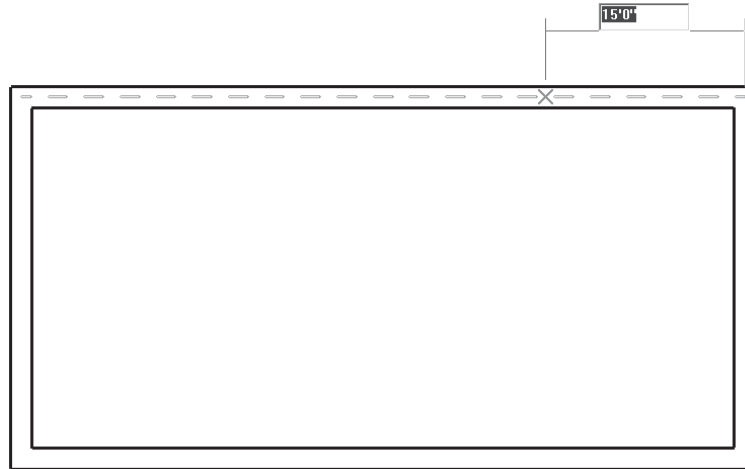
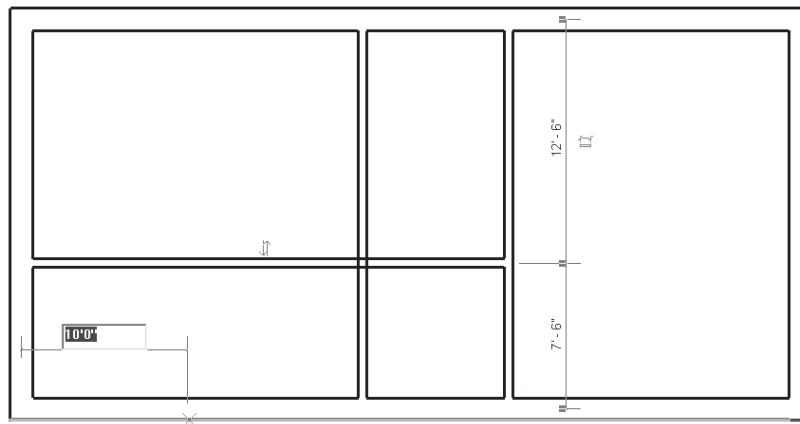

Figure 3-52 Specifying the distance for starting the first interior wall segment
Figure 3-58 Sketching the interior walls of the bath
- e. Sketch the interior walls based on the given parameters, refer to Figures 3-52 through Figure 3-58.
2. Enter **15'0"** from the keyboard, as shown in Figure 3-52, to specify the starting point of the first interior wall.
5. Similarly, move the cursor near the lower left corner and then move it horizontally toward the right. When the temporary dimension and the intersection object snap appears, enter the value **10'0"**, as shown in Figure 3-58.